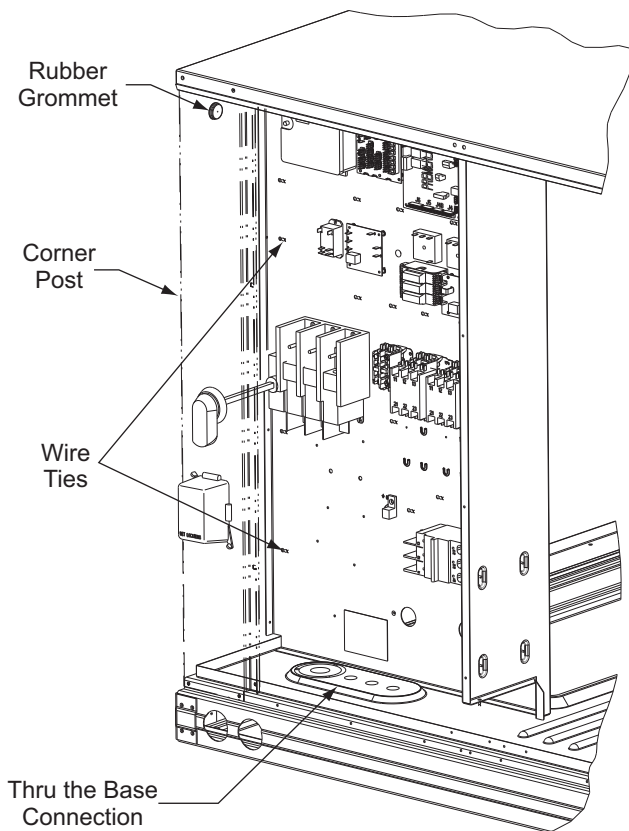

Fig. 27 — Field Control Wiring Raceway
circuit. Route the low voltage wire to the central terminal board. See Fig. 27.
2. Feed wires through the raceway built into the corner post (see Fig. 27) to the 24-v barrier located on the left side of the control box. The raceway provides the UL-required clearance between high-voltage and low-voltage wiring.